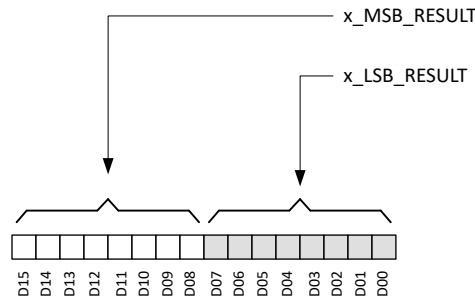

Figure 6-15. Magnetic Sensor Data Definition
The X, Y, and Z magnetic sensor data are stored in x_MSB_RESULT and x_LSB_RESULT registers. Figure 6-15 shows that each sensor output stored in a 16-bit 2's complement format in two 8-bit registers. The data can be retrieved as 16-bit format combining both MSB and LSB registers, or as 8-bit format through the MSB register.
- D_i is the data bit shown in Figure 6-15.